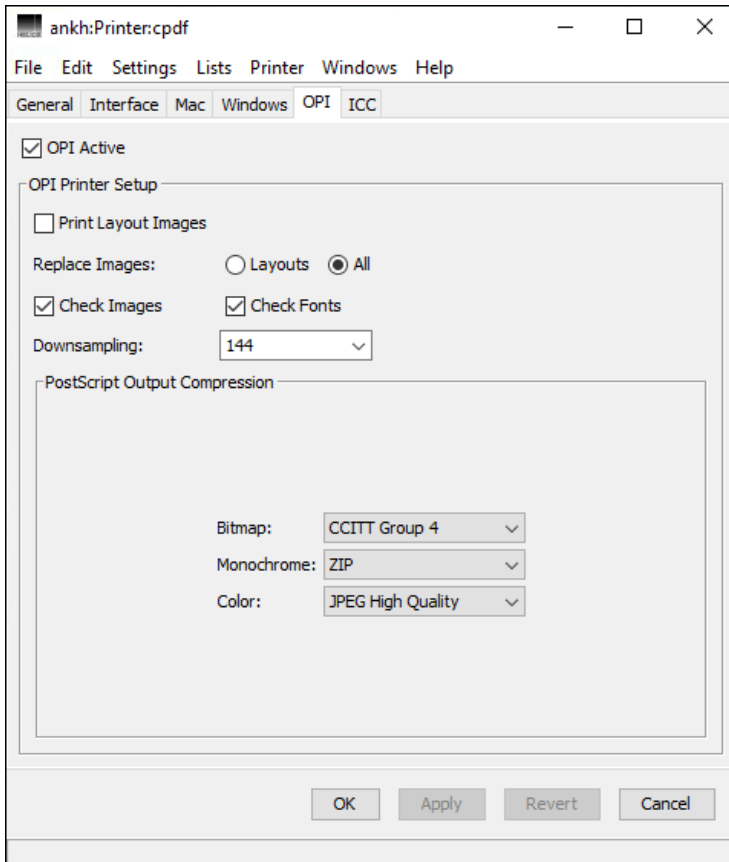

Fig. 4.6: Defining OPI settings for a printer queue
Please note that the finding procedures are started automatically during printing. If you want OPI to report missing image files, make sure that the `Check Images` option is active (default) when setting up the print preferences (see Fig. 4.6 in 4.3 “OPI printer queue settings”). Missing images will then stop the print job. With `Check Images` switched off, the documents will be printed, but the printouts will show blanks or layout images where the high-resolution images could not be found.
- Highlight a printer from the `Printers` list and then select `Printer > Settings` from the HELIOS Admin menu and go to the `OPI` tab to open the dialog shown in Fig. 4.6.
value in this dialog (144 dpi in Fig. 4.6), the OPI server will apply the value you have chosen for downsampling and then re-calculate and scale the image accordingly. Images with a resolution smaller than the value entered in this dialog, will remain unchanged because increasing the resolution automatically decreases the dimensions of an image. This would entail upward scaling and lead to a loss in quality.